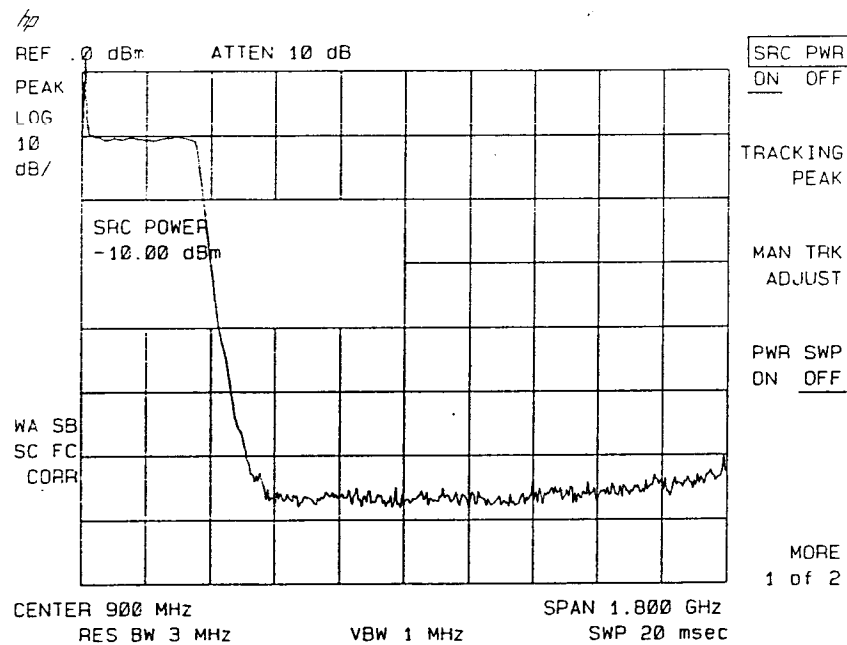

Figure 2-37. Tracking-Generator Output Power Activated
3. Activate the tracking generator menu by pressing **AUX CTRL** and **TRACK GEN**. To activate the tracking-generator power level, press **SRC PWR ON OFF** until **ON** is underlined. See Figure 2-37.